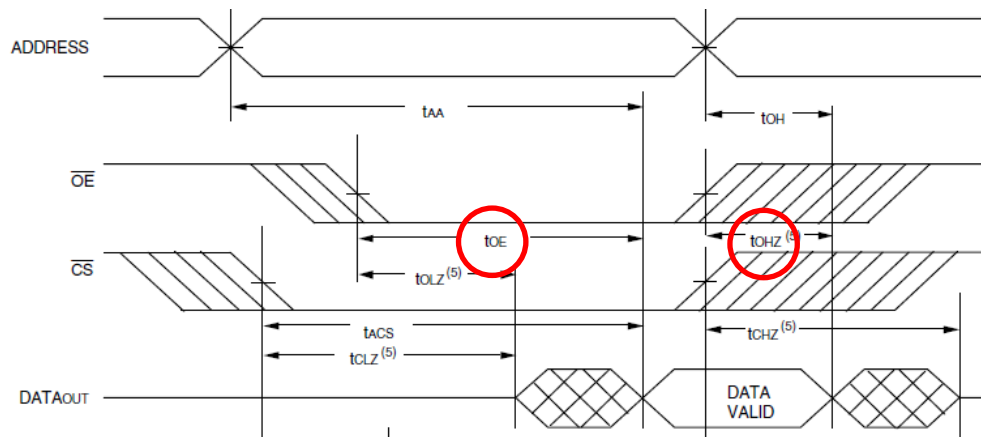

Figure 3.1: SRAM Read access timing diagram
5. Figure 3.1 and 3.2 shows the read and write access timing diagram of a SRAM. It is the signal that SRAM expects or output during a Read/Write operation. When a processor interface to the SRAM, it needs to output signals conforming to what the SRAM expect and needs to read in signals SRAM generates, all within specified timings e.g. t_{OE} , t_{OHZ} etc. Describe the significance of the following parameters during Read/Write operation, and whether the parameters should be a min or max value.